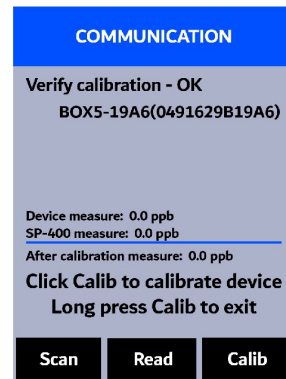

Figure 26.
14. If the calibration is successful, a "Verify calibration - OK" message will appear on the top of the display (Figure 26).
15. Calibration is now complete. Long press **Calib** (OK) to return to measurement mode.